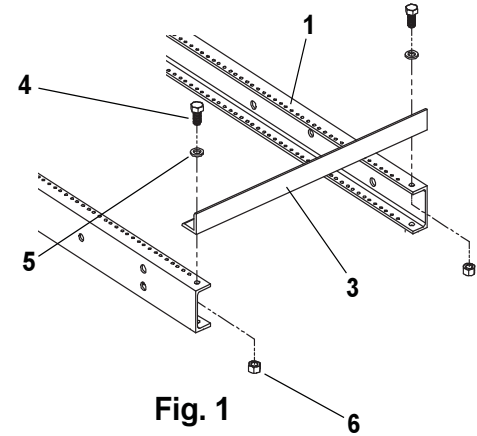

Fig. 1
STEP 1: Install top angles to vertical upright channels (see Fig. 1).